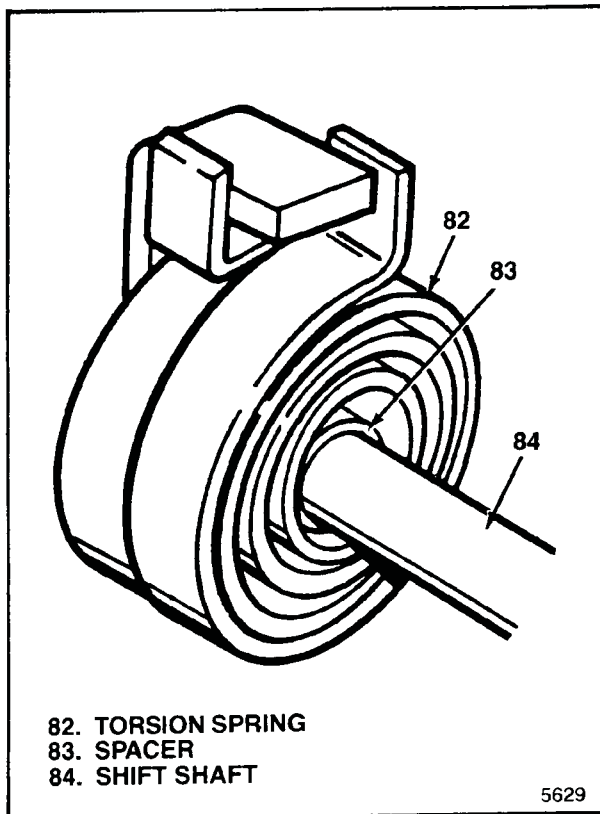

Figure 5-9. Completing Spring Assembly
- d. Push torsion spring (82) and spacer (83) together back as far as they will go (see figure 5-9).
- e. Slide electric shift cam (81) onto shift shaft (84), drive tang on cam first. Position drive tang on cam so that it will go under drive tang on shift shaft and between spring ends and slide cam as far as it will go.